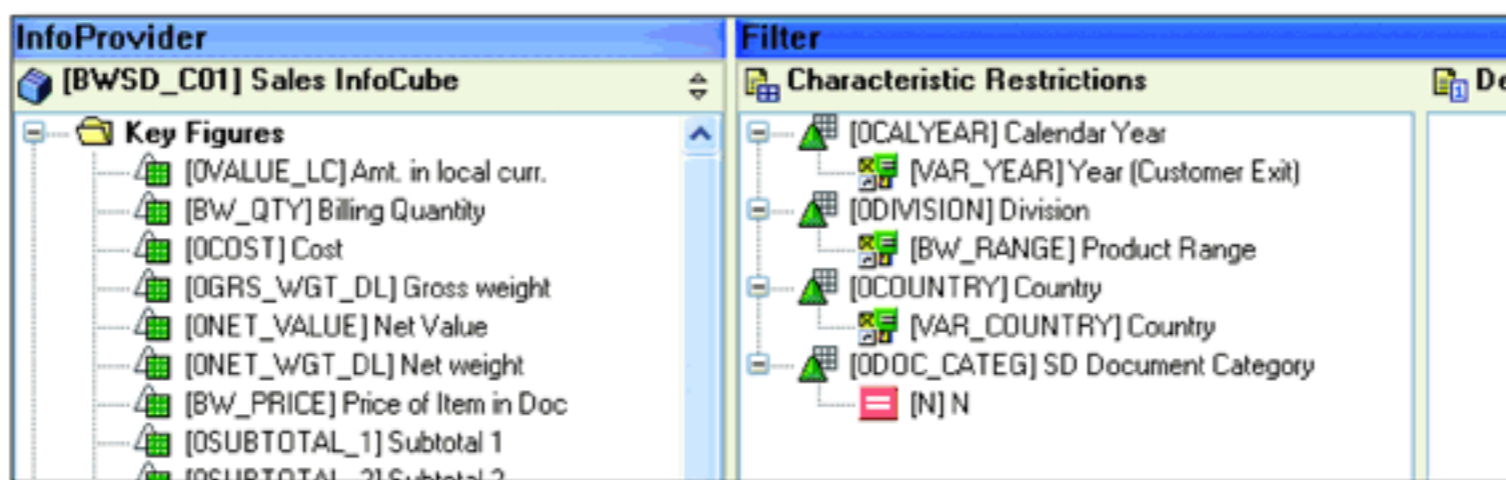
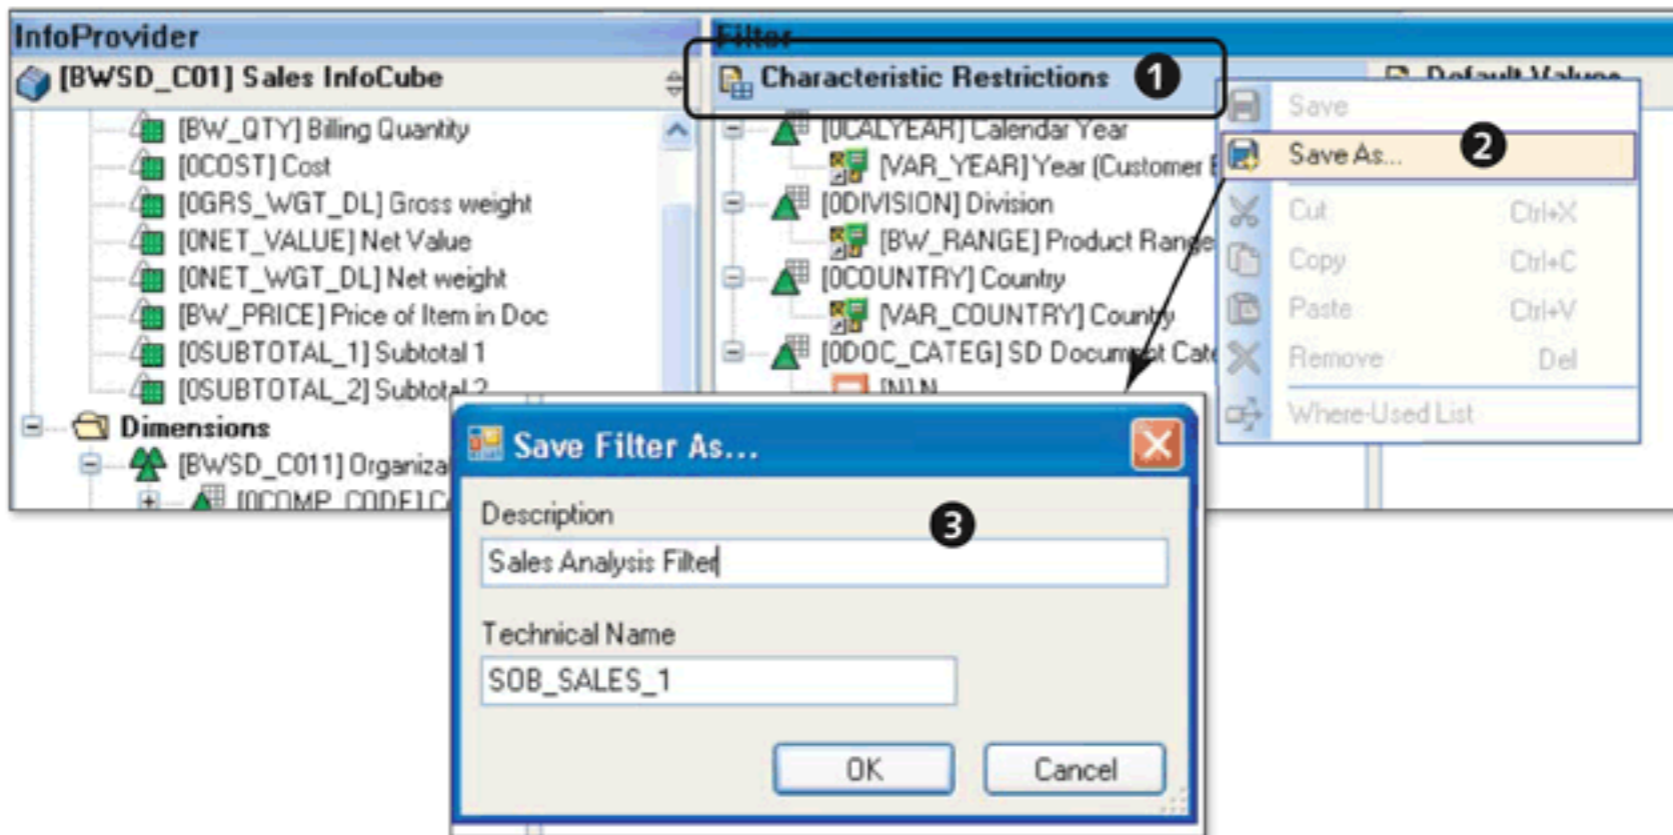

Figure 9.42 Filter Defined for Multiple Characteristics
Figure 9.43 Saving the Filter as a Reusable Component
Restrictions can be maintained for different characteristics together in a query. For the given example, you can drag the other characteristics, such as DIVISION, COUNTRY, or DOCUMENT CATEGORY, and restrict them per the logic (see Figure 9.42).
Note that in Figure 9.42, the characteristic SD DOCUMENT CATEGORY is excluded for the value N. After this filter is defined for a query, it can be saved as a reusable component to be used in other queries built on the same InfoProvider (Figure 9.43).
To save this filter, open the context menu (right-click) from the CHARACTERISTIC RESTRICTIONS bar (1 of Figure 9.43), and select SAVE AS (2). Maintain the DESCRIPTION and TECHNICAL NAME for the filter, and save it as a reusable component (3).